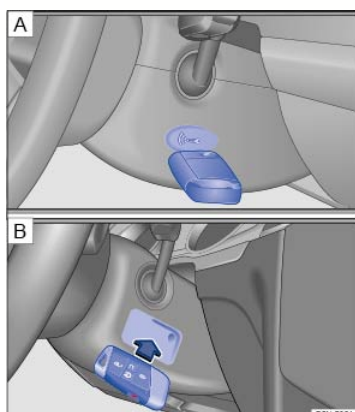

Fig. 108 Hold the remote control vehicle key to the right of the steering column: Emergency starting feature.
- Hold the remote control vehicle key to the right of the steering column trim immediately after pressing the starter button → *Fig. 108* **A** or **B**.